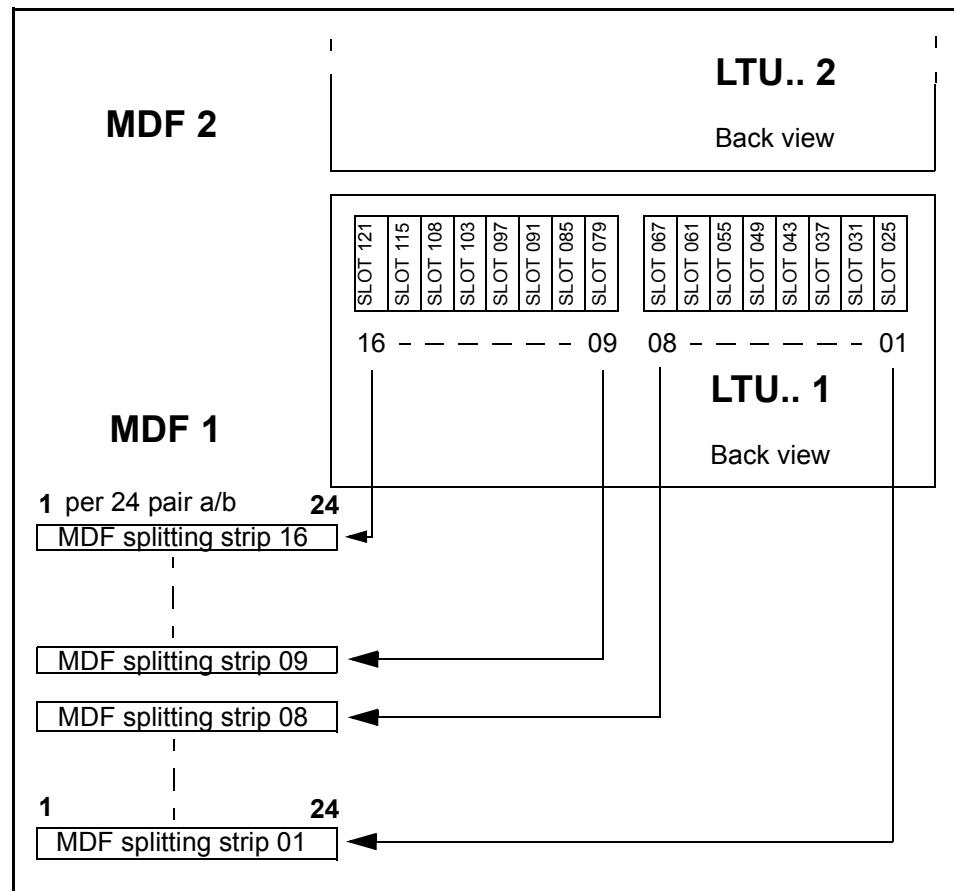

Figure 2 LTU to MDF cabling
3. Connect the cable for the alarm interface (C39195-Z7904-A25) to the ALIN connector on the MCM board and connect the other end of the cable to the ALIN connector on the UACD cabinet (see also Figure 2).